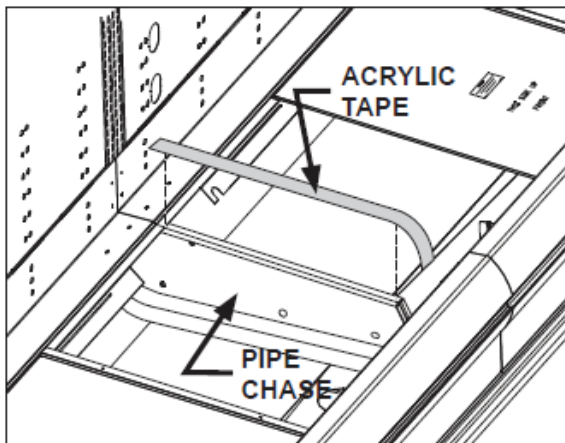

Fig. 3 Sealing the pipe chase
1. Seal the case-to-case joints with caulk (supplied), then apply acrylic tape (supplied) over the pipe-chase seam (Fig. 3). The tape acts as a watershed preventing water from settling in the case joint.